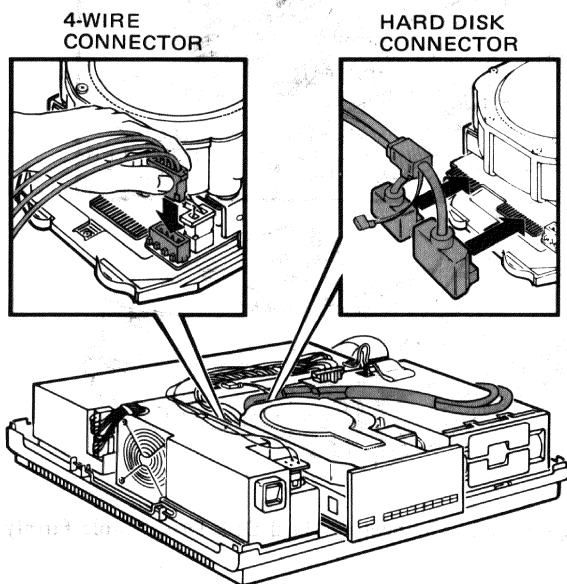

Figure 5-23 Hard Disk Drive Cable and 4-Wire Power Cable Installation (to disk drive)
2. Connect the hard disk drive cable connectors (Figure 5-23) installing them straight onto the hard disk drive. Do not install them at an angle to the hard disk drive.
4. Plug the 4-wire power cable into the power connector on the disk drive (Figure 5-23).